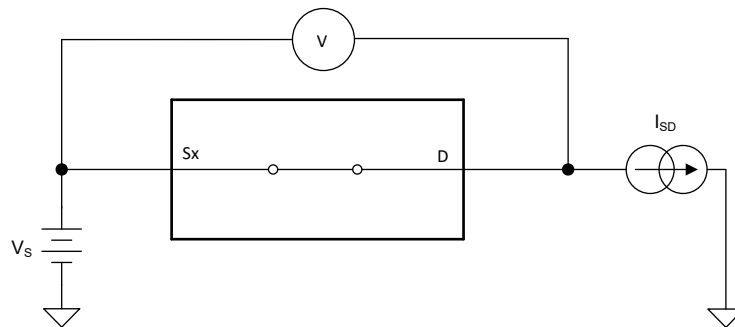

Figure 7-1. On-Resistance Measurement Setup
The on-resistance of a device is the ohmic resistance between the source (Sx) and drain (D) pins of the device. The on-resistance varies with input voltage and supply voltage. The symbol  $R_{ON}$  is used to denote on-resistance. The measurement setup used to measure  $R_{ON}$  is shown in Figure 7-1. Voltage (V) and current ( $I_{SD}$ ) are measured using this setup, and  $R_{ON}$  is computed with  $R_{ON} = V / I_{SD}$ :